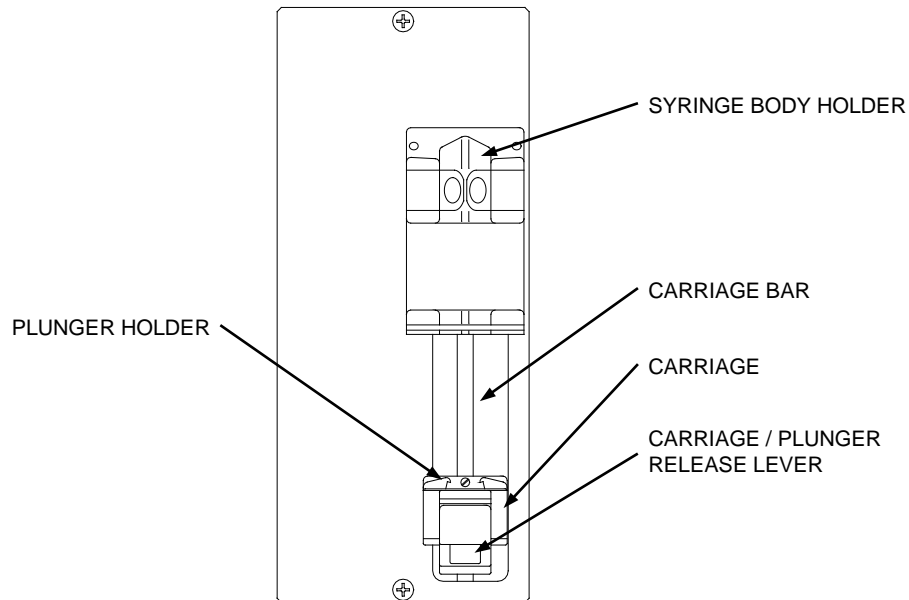

Figure 10. Heparin Pump Module.
6. When the carriage has stopped, press the [Escape] key and clean the carriage bar (See Figure 10).